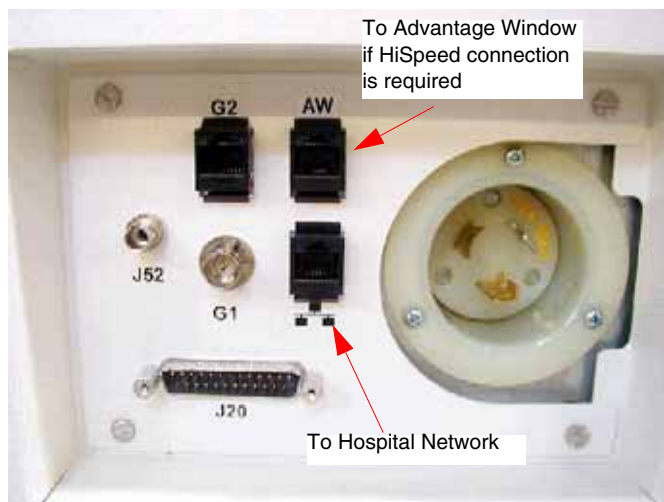

Figure 4-17 Console Rear Bulkhead
- A patch cable (not to exceed 10 feet) should be provided by the customer, and it is used to connect the console to a wall box. (See Notes on Figure 4-17)